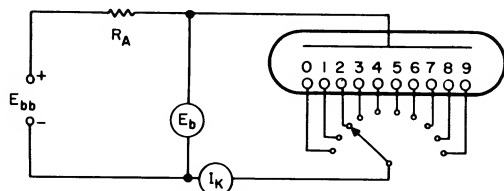
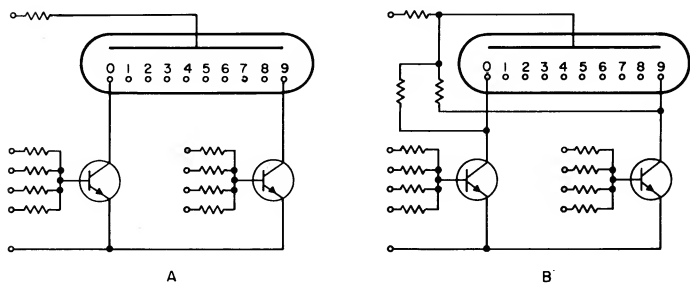

FIG. 1. READOUT TUBE FUNDAMENTAL CIRCUIT
FIG. 7 TYPICAL TRANSISTOR CIRCUITS
**See Fig. 1 & 3, Page 7. Use of the highest voltage available with the appropriate resistor is recommended.
Readout Tube operation can be explained more fully by considering the tube similar to a single cathode gas diode. Fig. 1 shows a simple operating circuit with the Readout Tube
An electro-mechanical stepping switch using circuits similar to Figure 1 is the simplest method of driving Readout tubes, but slow speed and high cost limit usage. Semi conductor driving circuits using NPN transistors or similar semi conductor devices are more widely used. Typical transistor driving circuits are shown in Figure 7.
In normal operation the "on" transistor is operated in saturation and the "off" transistor is operated in a back bias state. These "off" transistors will carry some collector leakage current. If this leakage current becomes excessive, a background glow or haze can be observed in the Readout tube. As explained in the section on Pre-bias Voltage, the total "off" cathode current should be kept below 100uA and the "off" cathode voltage should be above 50 volts. To allow some margin, a driver transistor should have a maximum collector leakage current of 1.0uA at 65 volts and 25°C and a maximum of 10uA at 85°C. Transistors with higher leakage currents can be used by connecting the collector to a source of high positive voltage. Normally a 1.5 megohm resistor is connected from each collector to the anode as shown in Figure 7 B. Some transistors suitable for driving Readout tubes are: